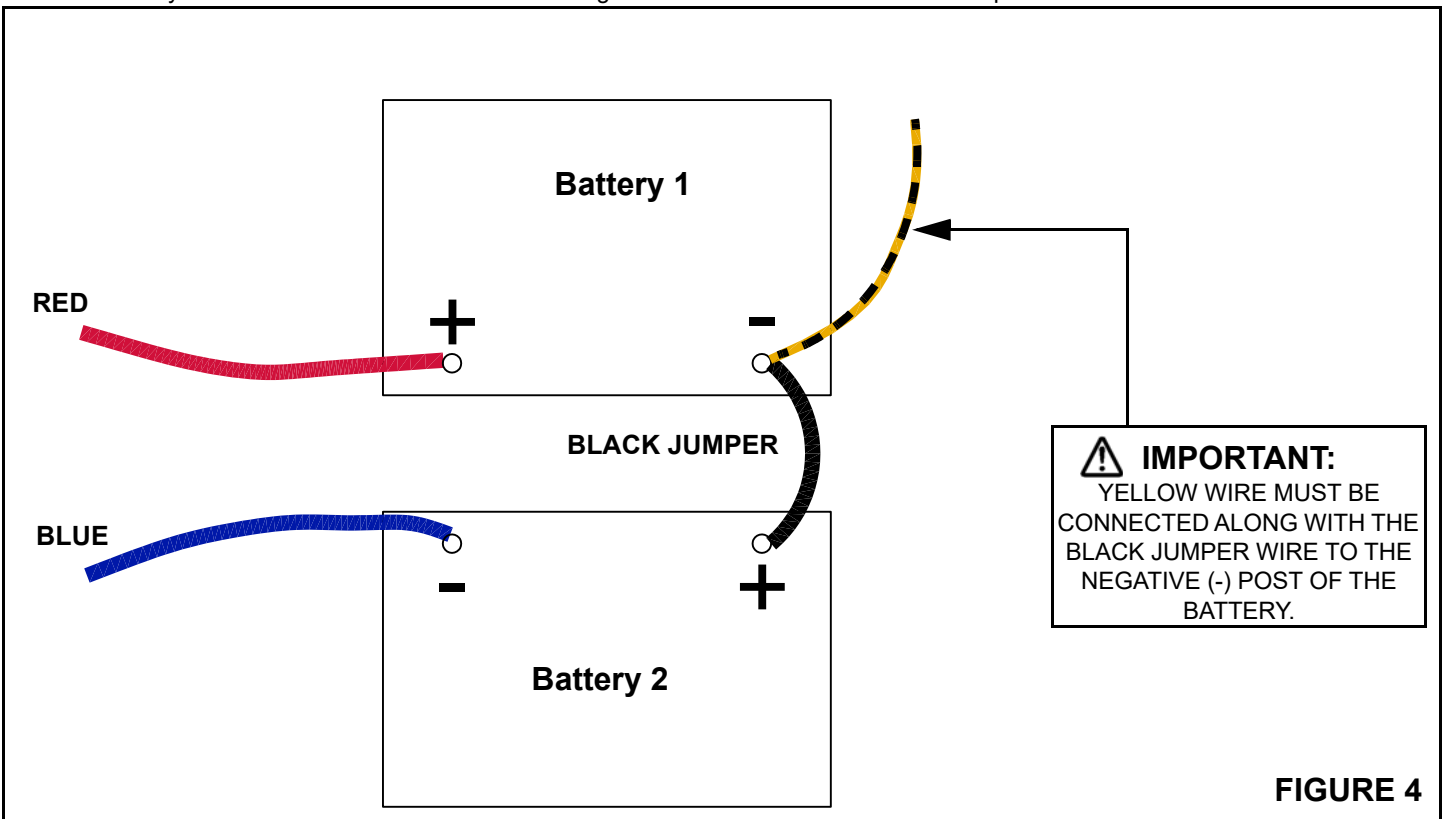

FIGURE 4
STEP 5: CONNECT BATTERIES (SEE FIGURE 4)
- b. Refer to figure 4. Connect the Black jumper **ALONG WITH THE SMALL YELLOW WIRE** to the negative (-) post of one of the batteries. Connect the other end of the black jumper to the positive (+) post of the other battery. Connect the RED wire to the available positive (+) post of the first battery. Connect the BLUE wire to the available negative (-) post of the second battery. This assembly results in batteries that are in series. Tighten all bolts to a recommended torque of **78 lbf-in ± 4 lbf-in**.